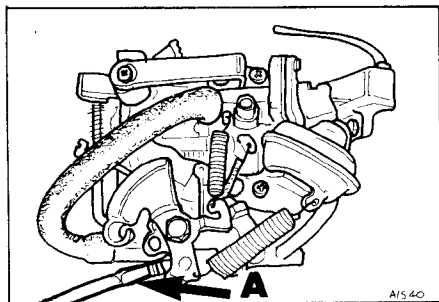

Fig. 5 Fast idle screw
- If engine speed higher than specified, adjust by turning fast idle screw (A, Fig. 5).